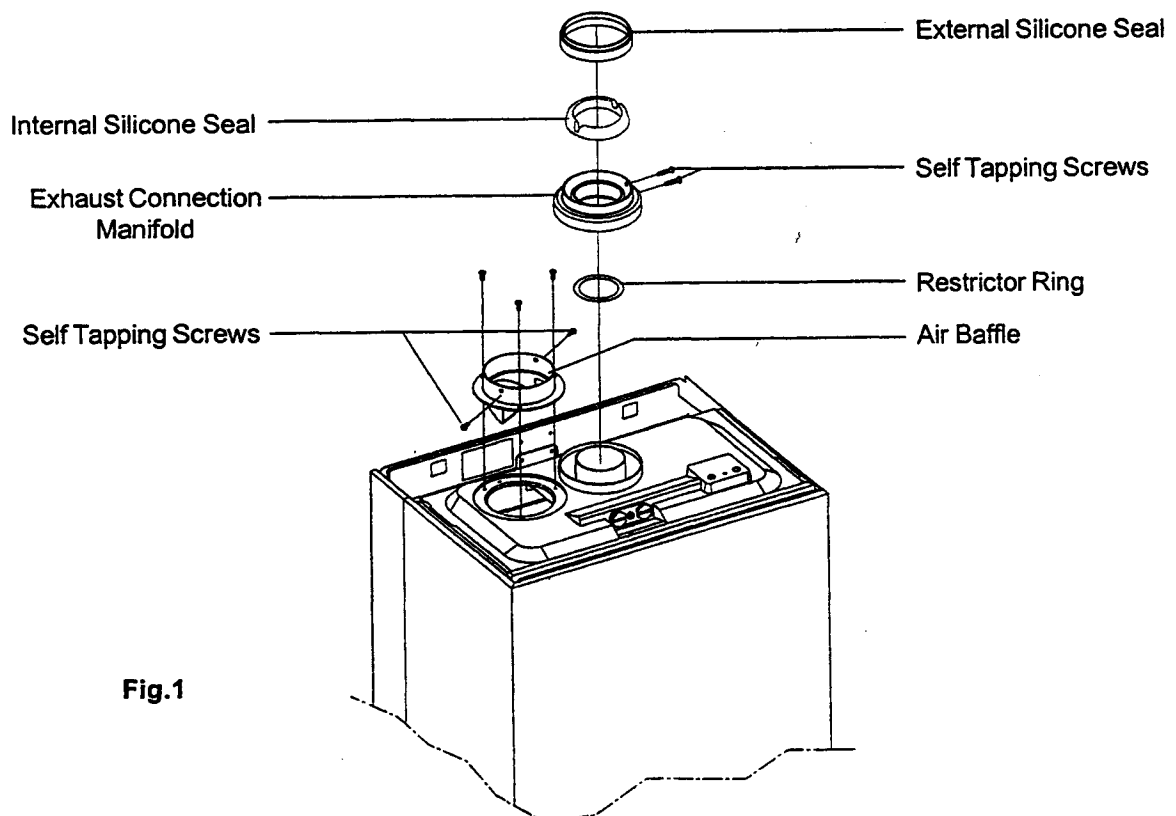

Fig.1
Kit contains: (fig. 1)
- 1.1 Insert the steel restrictor ring into the exhaust connection manifold. (Only if the combined flue lengths is less than 8m, fig. 1).